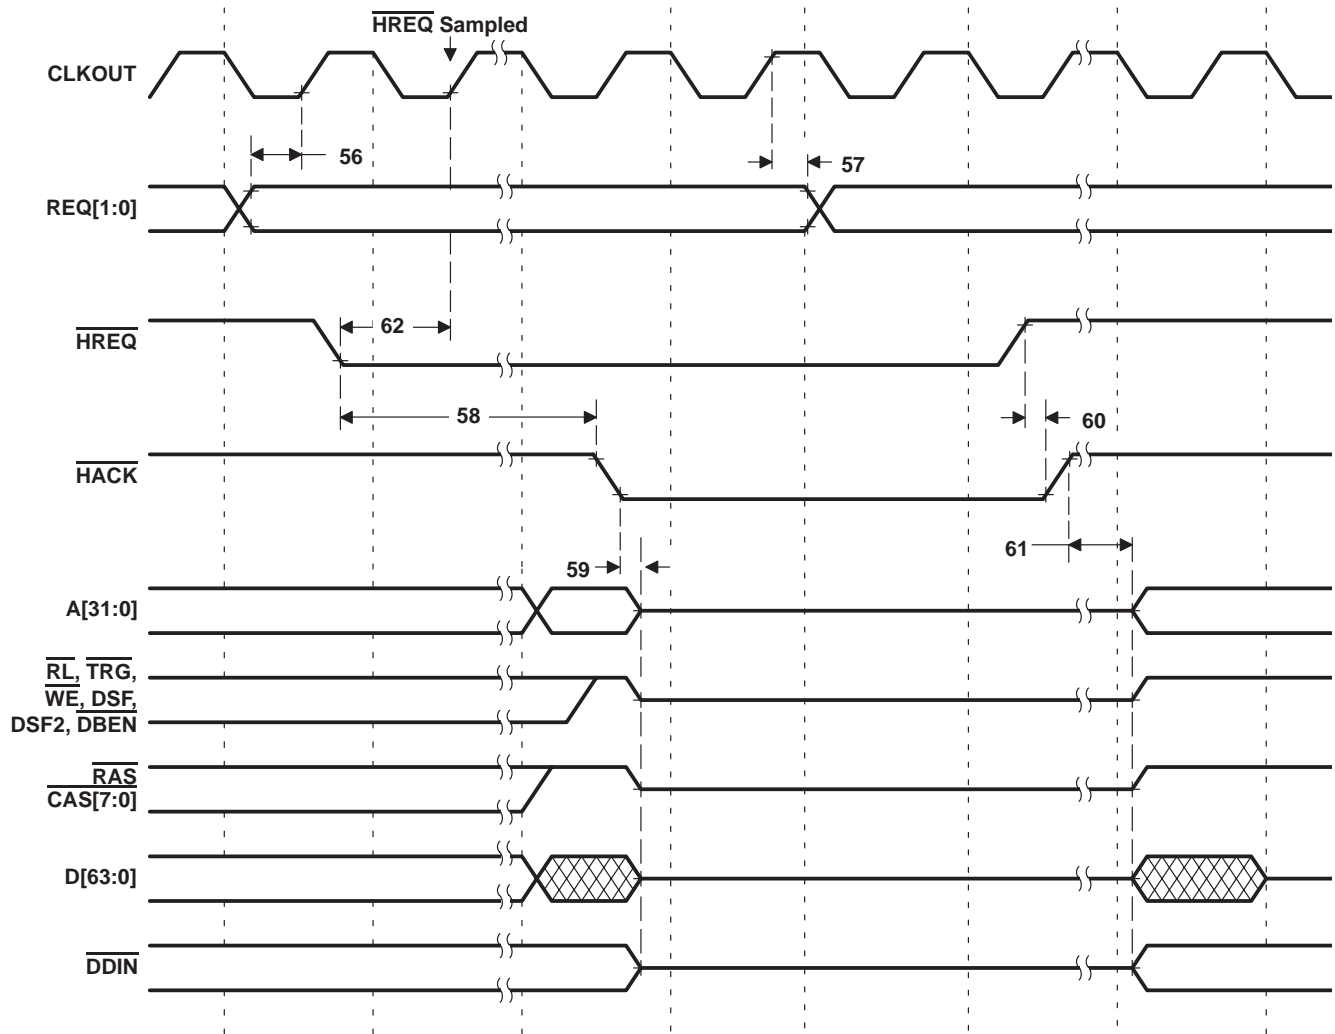

Figure 130. Host-Interface Timing
**host-interface timing (see Figure 130)**
host-interface timing (see Figure 130) (continued)